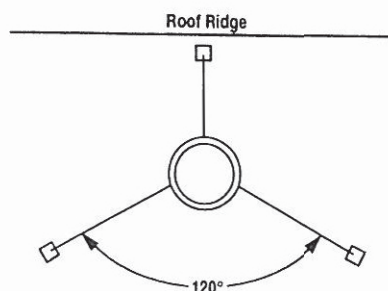

Figure 32
Step 9. Superior locking bands, Model LB, may be required if the chimney extends too high above the roof flashing. As a general rule, if the chimney extends more than 6' (1.8 m) above the roof flashing, the use of locking bands is advisable to strengthen the chimney assembly. Align the locking band at the chimney joint. Locking bands wrap around pipe joints equally covering the joints of both pipe sections. Use nut provided and TIGHTEN snugly. Do not over-tighten as this might damage chimney section (Figure 32).